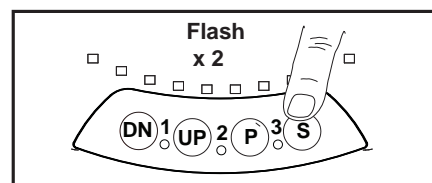

fig.2
2. Press and release the “P” button and the garage door opener will go into courtesy light learn mode for 30 seconds (fig.2).
2. Enter ventilation activation mode by pressing the **P** and **UP** buttons together for 3 seconds (figure 2). Release when the courtesy light flashes once.
2. Enter ventilation mode by pressing the **P** and **UP** buttons together for 3 seconds (figure 2). The courtesy light will flash twice, indicating that deactivation has occurred.